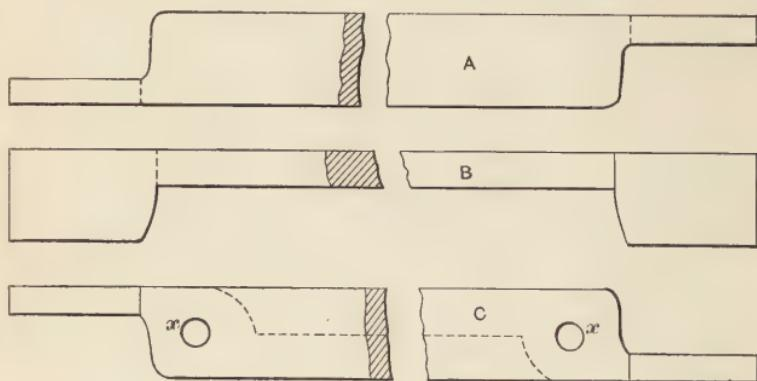

Fig.10
**Tongs**, like fullers, flatters and swages, are made by drop forging, so that the blacksmith has very little of this kind of work to contend with by hand. In fact, it does not pay to bother to make any but special tongs that are wanted at once and cannot be purchased or that it would take some time to get by sending for them. A quick and handy way to make a pair of light tongs is indicated in Fig. 10. Take a piece of flat stock of the size required and flatten the ends as shown in the two views, *A* and *B*. Then punch holes *x x* and